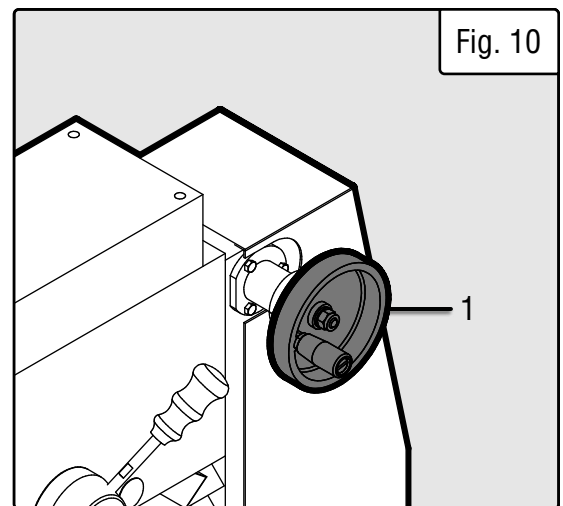

Fig. 10
3. Turn the Z-axis handwheel (Fig. 10 - 1) to adjust the height of the headstock. Turn the handwheel clockwise to raise the headstock and counter-clockwise to lower it. Each full rotation of the handwheel moves the headstock 0.05".